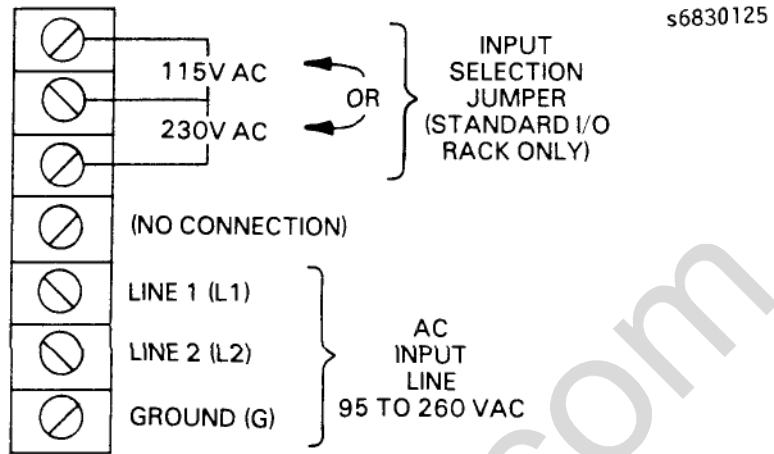

Figure 3. I/O RACK FRONT-PANEL TERMINAL BLOCK
- 1. The I/O rack can be rack-mounted or panel-mounted. The location and orientation of the mounting brackets depends on the mount. Refer to Figure 3.
- 2. Refer to Figure 3. Connect a power cord capable of carrying the current drawn by the power supply to the terminal block on the front panel. Safety ground and signal ground connections must be made as described in the Series Six Plus Users Manual. Ensure that the input voltage jumper is positioned correctly and secured (Standard I/O rack only). After the connections have been made, mount the protective cover over the terminal block with the screws provided; make sure that the wires are routed through the opening in the cover.